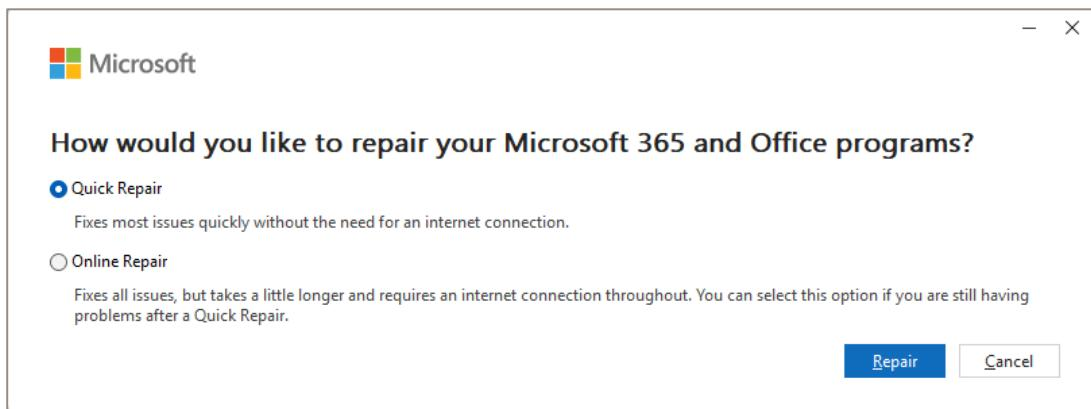

Figure 34: Select Quick Repair
4. Select “Quick Repair” in the window asking how we want to carry out the repair of Microsoft 365 and Office programs. (see Figure 34).